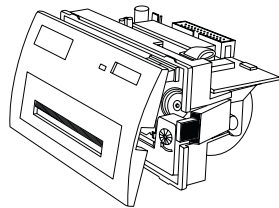

Fig 2-4 Remove the front cover
- Remove the front cover as shown in Fig 2-4.
- Put on the front cover of the printer (See Fig 2-4).